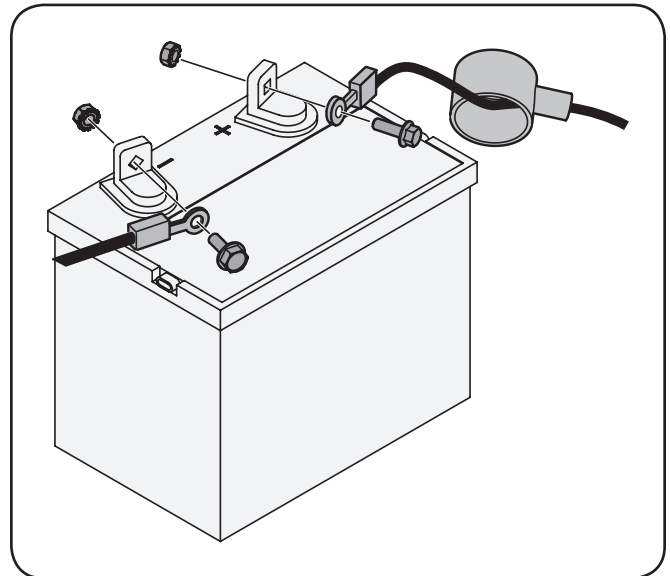

Figure 1-6
1. Remove the plastic cover, if present, from the positive battery terminal and attach the red cable to the positive battery terminal (+) with the bolt and hex nut. See Figure 1-6.
2. Remove the plastic cover, if present, from the negative battery terminal and attach the black cable to the negative battery terminal (-) with the bolt and hex nut. See Figure 1-6.